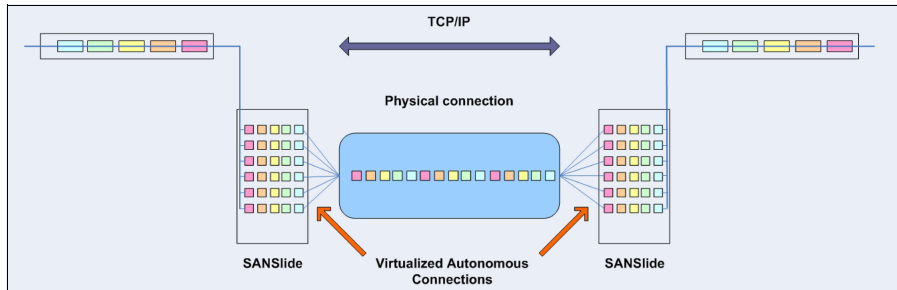

Figure 11-79 Optimized network data flow using Bridgewater's SANSlide technology
Using the Bridgeworks SANSlide technology, this typical behavior can be dramatically eliminated with enhanced parallelism of the data flow by using multiple virtual connections (VC) that share the same IP links and addresses. The Artificial Intelligence engine can dynamically adjust the number of VCs, the receive window size, and the packet size as appropriate to maintain optimum performance. While waiting for one VC's ACK, it sends more packets across other VCs. If packets are lost from any VC, data is automatically retransmitted (Figure 11-79 on page 375).